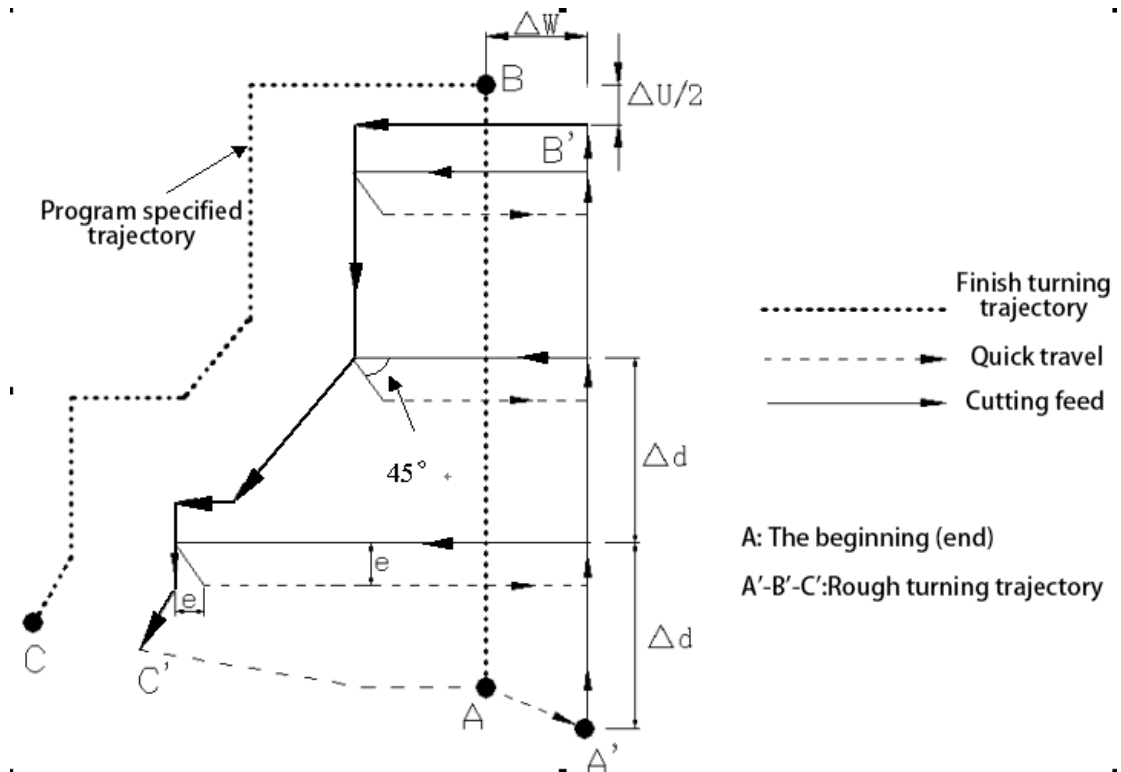

Figure 3-25 G71 code loop trajectory
1) Code execution process: Figure 3-25.